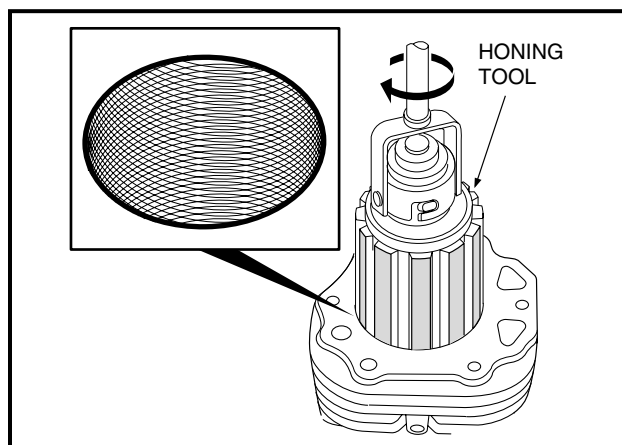

Figure 18-52 Hone Cylinder
**NOTE:** Important: The cylinder wall finish should have a 40° to 60° cross-hatch pattern (**Figure 18-52, Page 18-27**).